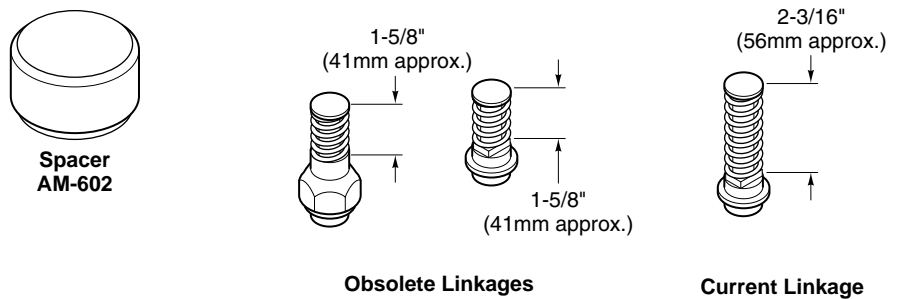

Figure-19 Current or Obsolete Valve Linkage.
2. The AM-602 spacer is used when current actuators are installed on old linkages. Refer to Figure-19.